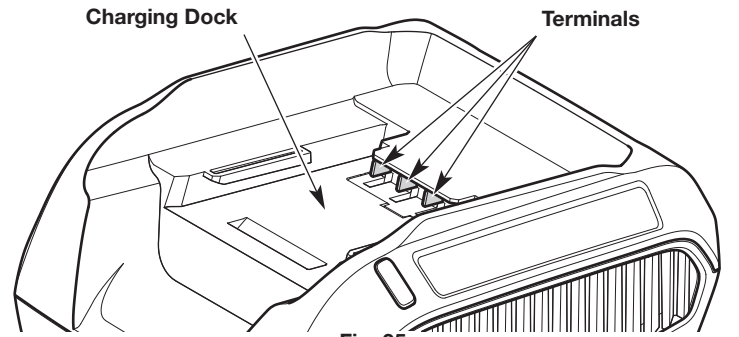

Fig. 35
- Keep the battery charger clean and clear of debris. Do not allow foreign material into the charging dock or onto the terminals (Fig. 35). Inspect the battery charger for foreign material before each use.